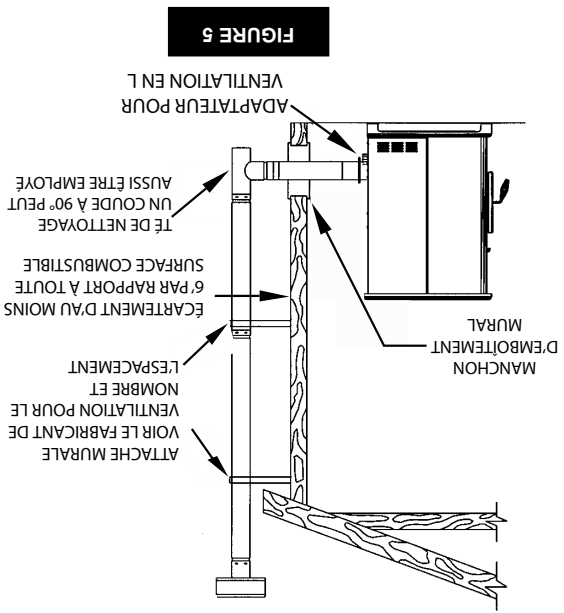

FIGURE 5
A. HORIZONTALEMENT AU TRAVERS D'UN MUR (Figure 5)